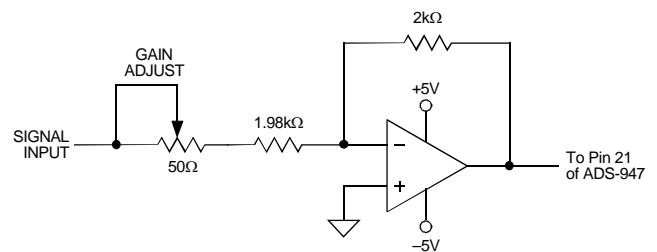

Figure 2. Optional ADS-947 Gain Adjust Calibration Circuit
- 2. The ADS-947 achieves its specified accuracies without the need for external calibration. If required, the device's small initial offset and gain errors can be reduced to zero using the adjustment circuitry shown in Figures 2 and 3. When using this circuitry, or any similar offset and gain calibration hardware, make adjustments following warmup. To avoid interaction, always adjust offset before gain.
Any offset and/or gain calibration procedures should not be implemented until devices are fully warmed up. To avoid interaction, offset must be adjusted before gain. The ranges of adjustment for the circuits in Figures 2 and 3 are guaranteed to compensate for the ADS-947's initial accuracy errors and may not be able to compensate for additional system errors.